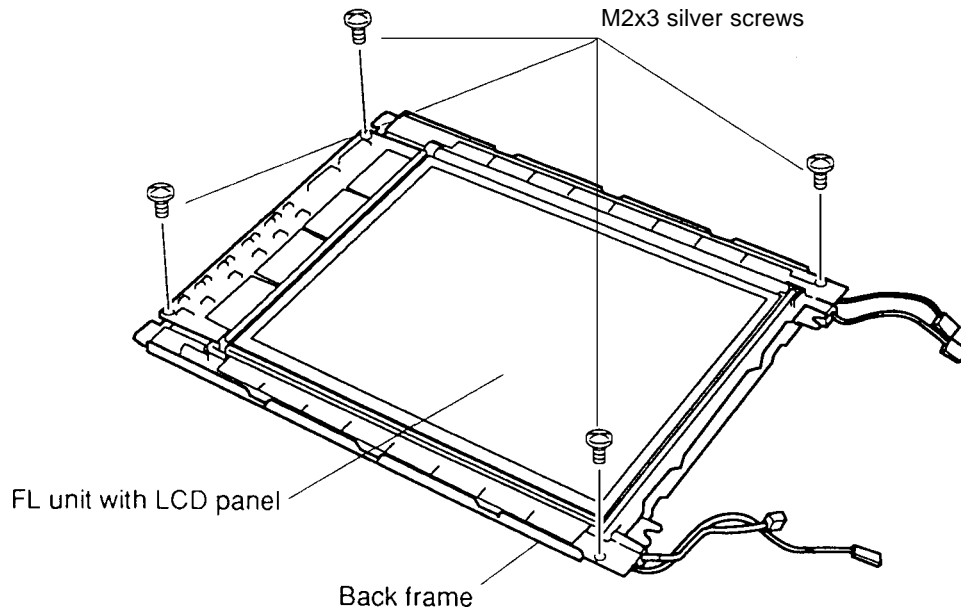

Figure 4-35 Removing the FL Unit Screws
5. Remove the **four M2x3 silver screws** securing the **FL unit LCD panel** to the back frame (Figure 4-35).
3. Secure the **four M2x4 screws** (Figure 4-35).